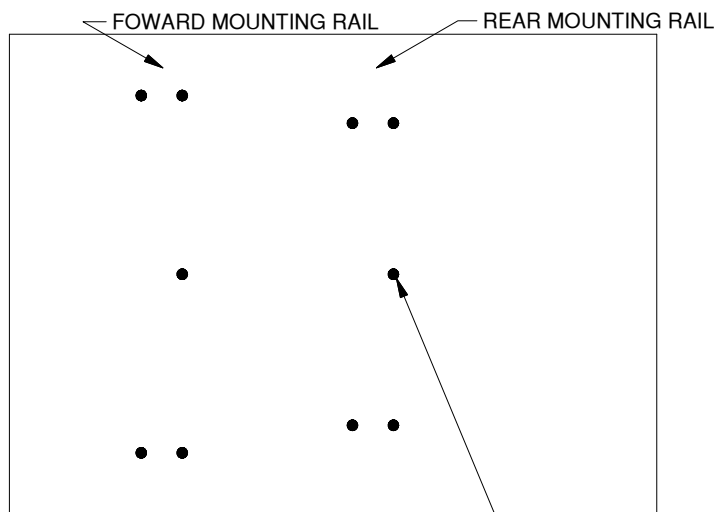

Figure A2: Detail view over bed, showing drill locations for the forward and rear bed rails. DRILL LOCATIONS HIGHLIGHTED BY BLACK DOTS
- 2. Mark hole locations:** While carefully ensuring the mounting rail does not move, use a center punch tool to mark the 5 drill locations on the rear rail. See figure A2 for hole marking locations for this installation (forward rails will install on a later step). Once all 5 rear rail locations are clearly marked, move the bed rail out of the way and drill each location with an 1/8" drill.
- 3. Drill forward mounting holes.** Using the same methods as used for the rear mounting rail, mark and drill the 1/8" holes for the forward mounting rail. Refer to "DRILL REAR MOUNTING HOLES" section, step 2, on a previous page. Notice that the hole locations are slightly different than the rear rail, see figure A2 (on the second page).